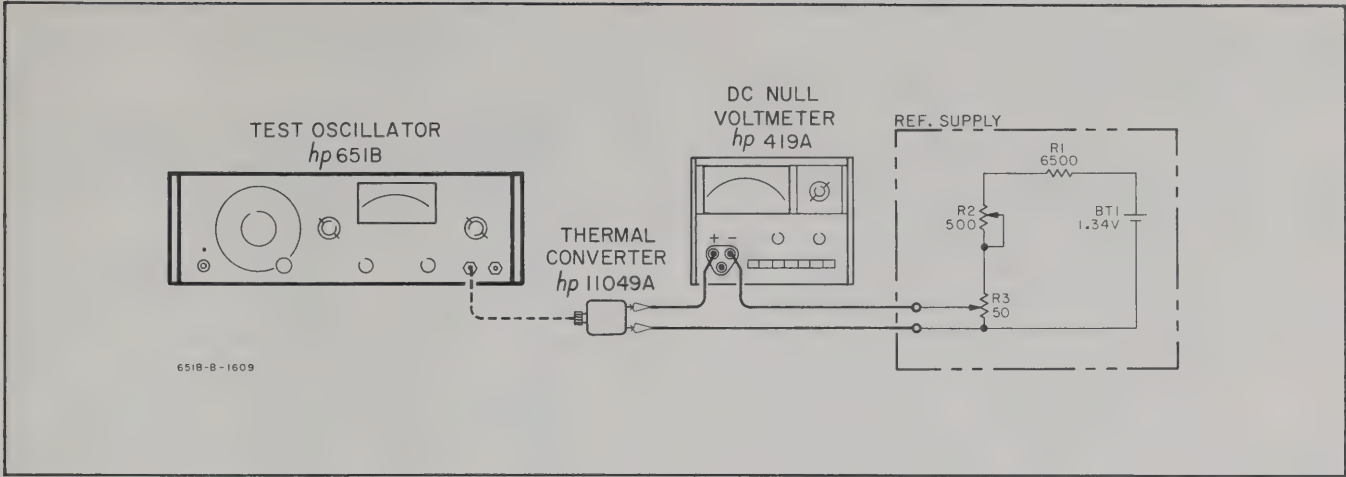

Figure 5-3. Flatness Checks
- a. Connect equipment as shown in Figure 5-3. (Use a thermal converter with a known change in output for a given change at the input. If this information is not readily available, then Table 5-3 gives this information for a typical thermal converter connected as in Figure 5-3.) Set both 651B output and reference supply to minimum before connecting. Thermal converter must be connected directly to 50 Ω output of 651B. With Option 02-651B, use 75 Ω thermal converter (-hp- Model H01-11049A).